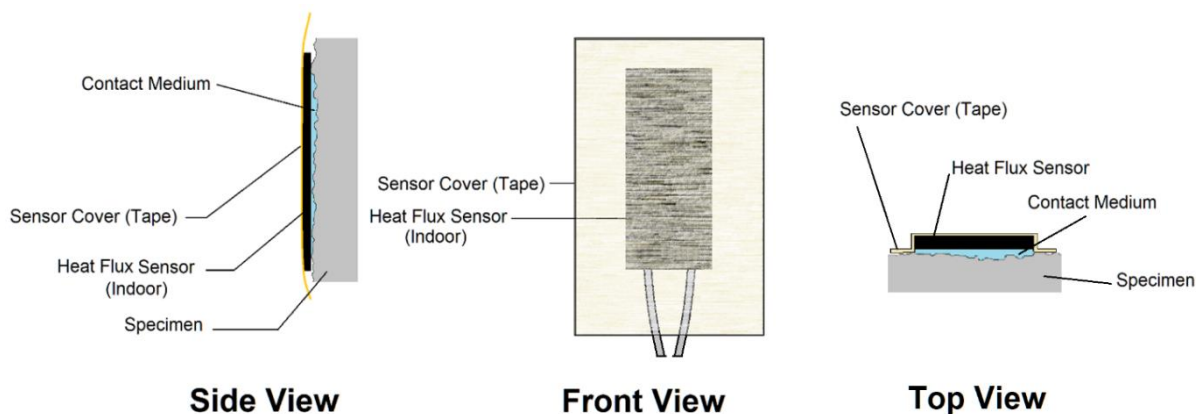

Figure 8- Configuration of the heat flux sensor on the surface (QHT-10-HT and QHT-10-HH)
**The heat flux sensor** measures the total heat flux perpendicular to the surface of the wall. To install the heat flux sensor, a perfect thermal contact is required. The thermal pads can be used for this purpose. Alternatively, carpet temporary double side adhesive or thermal compound (paste) can be used. The surface should be flat and clean. Cover the sensor with a masking tape of same emissivity as the rest of the surface being measured (See Figure 8). It is recommended to recalibrate the heat flux sensors every 1-2 years.